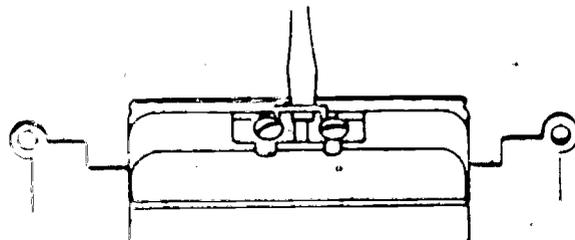

FIGURE 1
- K. Break connecting fin from ungrounded side of receptacle (Figure 1)